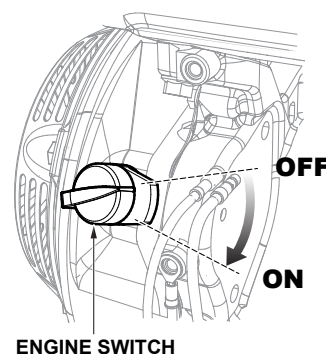

Figure 24. Engine ON/OFF Switch
5. Place the engine ON/OFF switch (Figure 24) in the **ON** position.
3. Place the Engine ON/OFF switch (Figure 24) in the **OFF** position.